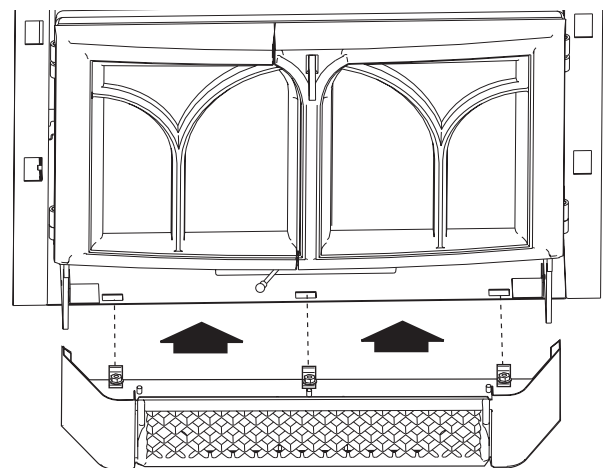

Figure 19. Attach the Ashlip Extension to the Firebox base. Be sure that the clips slide OVER the front edge of the bottom plate, not under it.
- Engage the three spring clips on the Extension Base with the adjoining cutouts on the firebox base. Align the clips with these slots and push the Extension to snap it together with the base of the firebox base. The clips should slide over the front edge of the bottom plate to engage with the cutouts. See fig. 19.